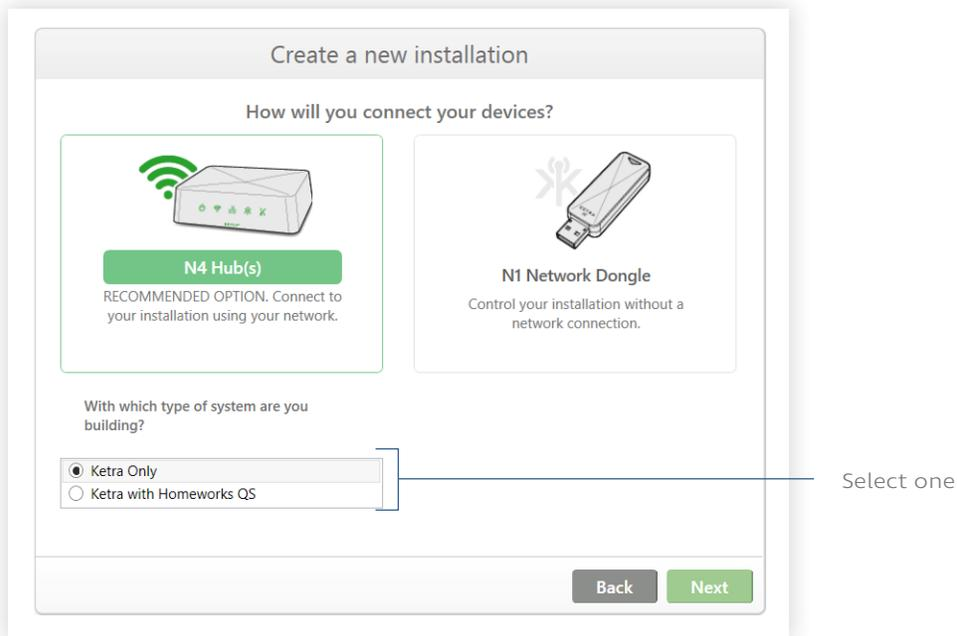

fig. 18
- 6 **Set whether you are building a Ketra Only or Ketra with HomeWorks QS installation (see fig. 18, next page).** If you select a Ketra with HomeWorks QS installation, you will have a smaller number of available Design Studio features for the installation, since the Ketra software will only be used to set up groups, scenes, and shows prior to configuration in Lutron HomeWorks QS.